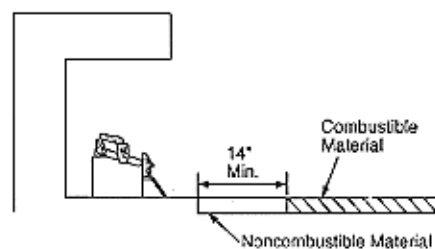

Figure 8- Minimum Fireplace Clearances if Installed at Floor Level
- A. If installing appliance on the floor level, you must maintain the minimum distance of 14" to combustibles (see Figure 8).